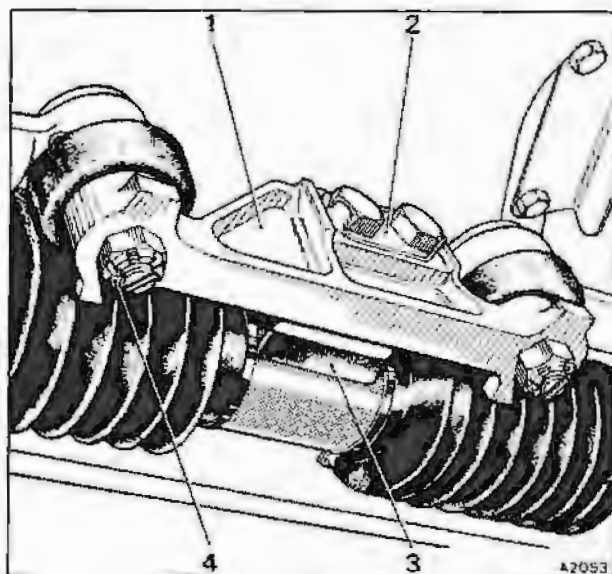

Fig. N2-10 Inner ball joint bracket in position
3. Align the spacer between the inner ball joint bracket and the steering unit centre block seal (see fig. N2-10).